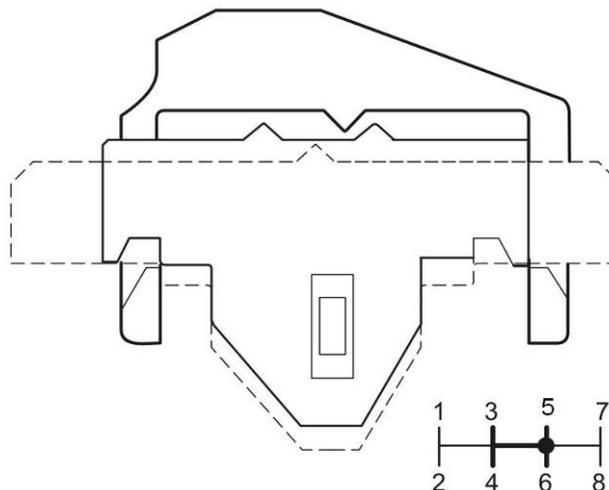

Figure 21 Neutral Position C
- d. **Neutral C.** If neutral C is selected, the upper detent plate is moved away from the shift bush by the detent plunger. The neutral detent mechanism blocks the path to neutral A and D, as shown in Figure 21.